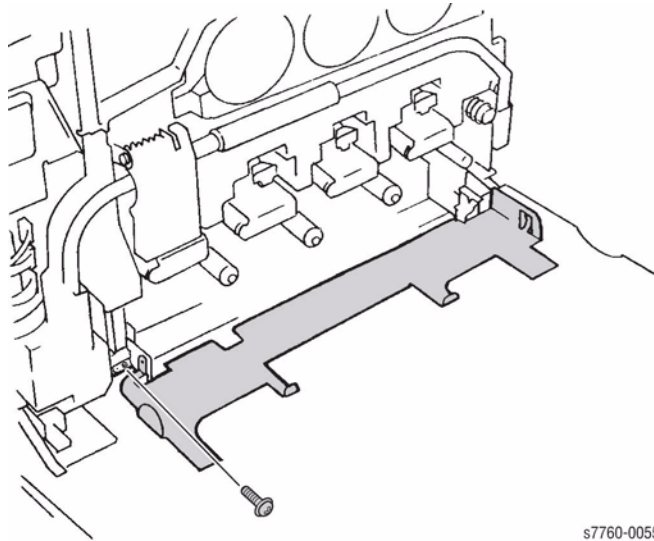

Figure 1 Removing Waste Toner Cartridge Cover
2. Removing the Waste Toner Cartridge Cover (Figure 1).